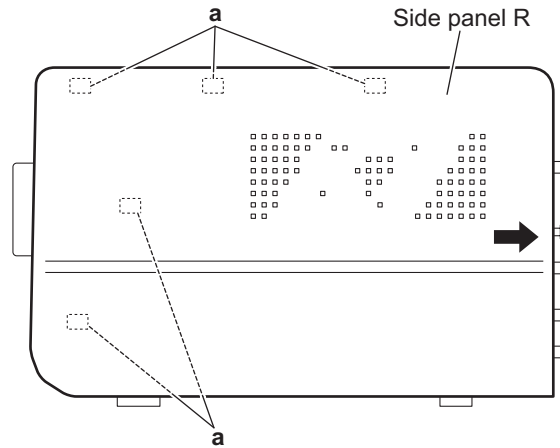

Fig.3
- (3) From the both sides of the main body, release the joint **a** in the direction of the arrow and remove the side panels L/R toward this side. (See Figs.3 and 4.)